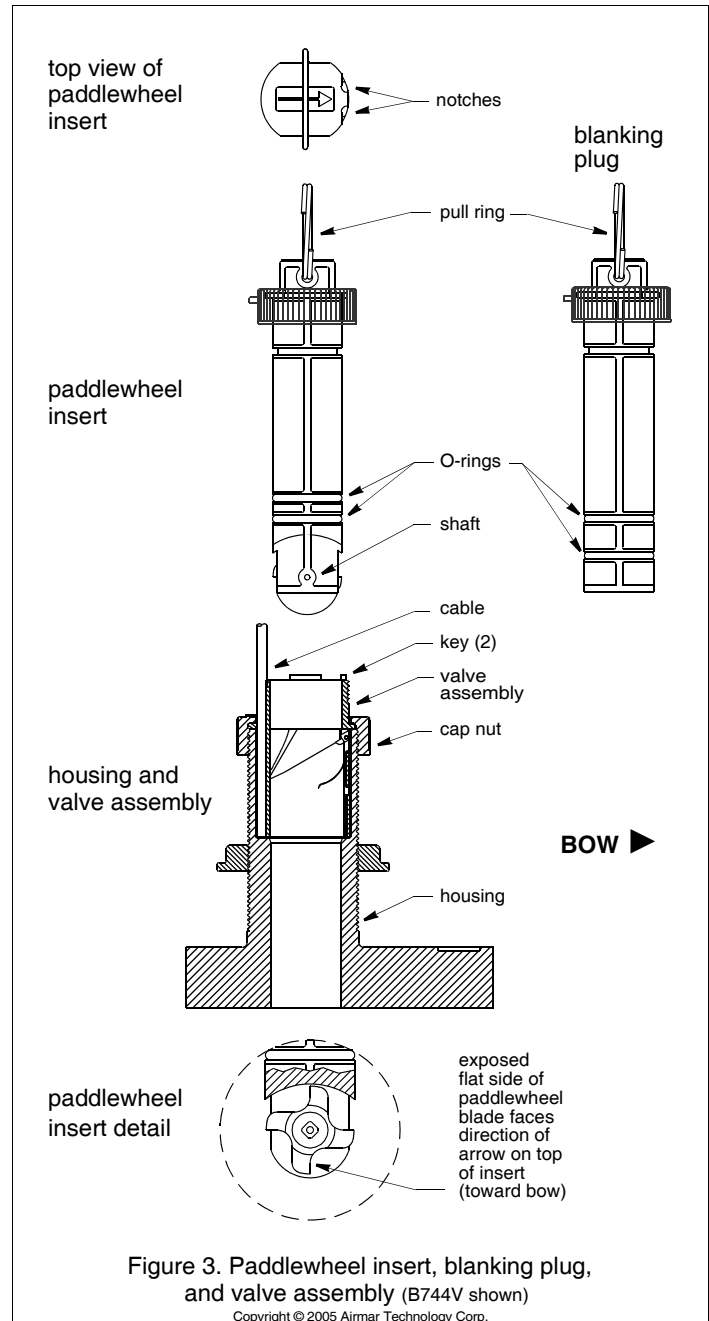

Figure 3. Paddlewheel insert, blanking plug, and valve assembly (B744V shown)
1. After the sealant cures, inspect the O-rings on the paddlewheel insert (replace if necessary) and lubricate them with the silicone lubricant supplied (Figure 3). The O-rings must be intact and well lubricated to make a watertight seal.
The multisensor incorporates a self-closing valve which minimizes the flow of water into the vessel when the paddlewheel insert is removed (Figure 3). The curved flap valve is activated by both a spring and water pressure. Water pushes the flap valve upward to block the opening, so there is no gush of water into the boat.
1. On the blanking plug, inspect the O-rings (replace if necessary) and lubricate them with silicone lubricant or petroleum jelly (Vaseline®) (Figure 3). The O-rings must be intact and well lubricated to make a watertight seal.
4. Slide the blanking plug into the housing. Seat it into place with a pushing twisting motion until the keys fit into the notches (Figure 3). Screw the INSERT nut in place and **hand-tighten** only. Do not over tighten.
1. On the blanking plug, inspect the O-rings (replace if necessary) and lubricate them with silicone lubricant or petroleum jelly (Figure 3). The O-rings must be intact and well lubricated to make a watertight seal.
3. Separate the paddlewheel insert from the valve assembly by unscrewing the INSERT nut (Figure 3). Grasp the pull ring and pull slowly upward.
5. To reinstall the valve assembly, inspect the O-rings on the paddlewheel insert (replace if necessary) and lubricate them with silicone lubricant or petroleum jelly (Figure 3). The O-rings must be intact and well lubricated to make a watertight seal.
1. Using the new paddlewheel shaft, push out the old shaft about 6mm (1/4"). With pliers, remove the old shaft (Figure 3).